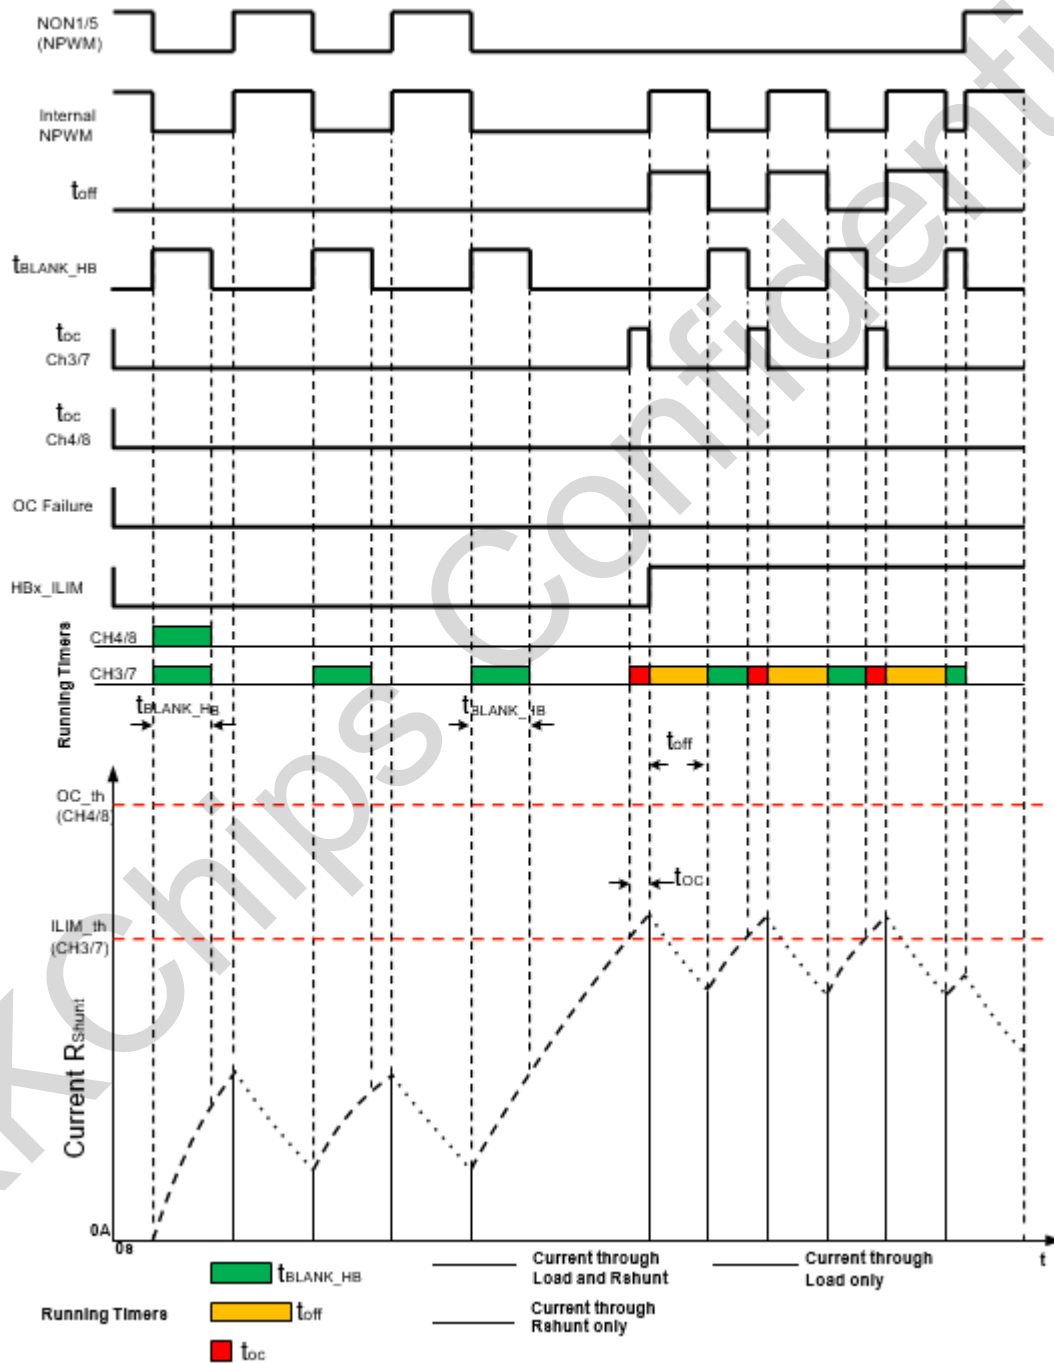

Figure 5-7 Current limitation timing diagram
- If $HBx_ILIM_en = 1$, the current limitation feature is enabled. The device will limit the current one more time after OC threshold crossing and, in case of failure still persisting, the H-Bridge is three-stated (all FETs actively OFF, load floating) after $t_{OC} + t_{OFF}$ (refer to Figure 5-7).
Current limitation feature is able to limit the maximum current in the load modulating the NPWM signal, as shown in Figure 5-7. This allows keeping the current of the load below the current limitation